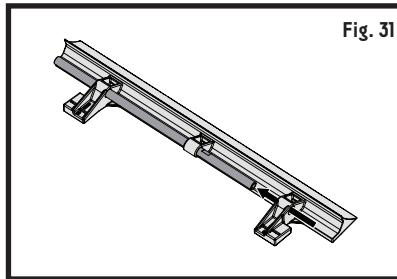

Fig. 31
5. Remove pivot rod from scraper blade and discard blade(Fig. 31).